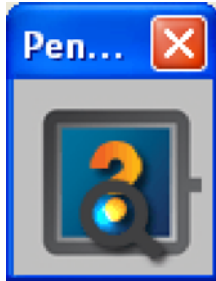

Figure 6-28: Touch Panel Drivers Installing
Step 9: The touch panel driver begins installing (Figure 6-28).